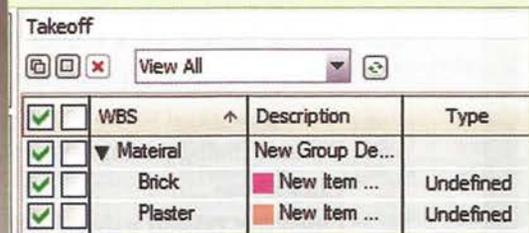

Fig 2: Material
- Create two items within the group called as 'Brick' and 'Plaster' (Figure 2).